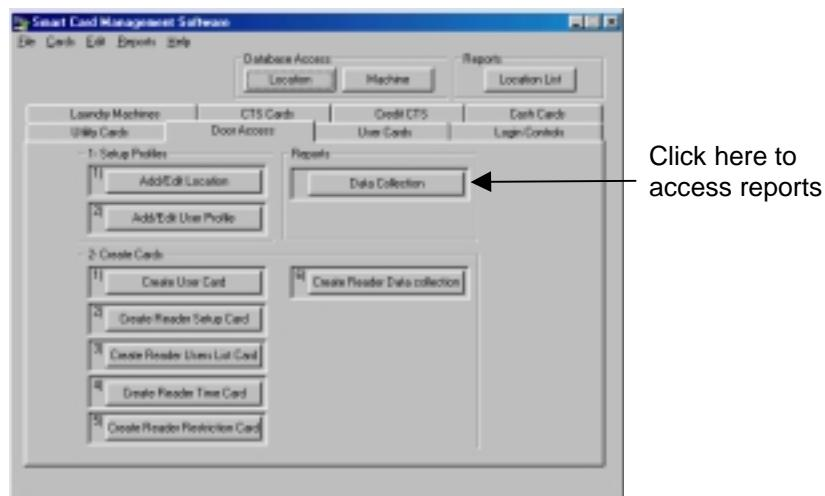

Figure 11.61 Door Access User Reports
1. Click the Data Collection button in the Door Access Manager (Figure 11.61).